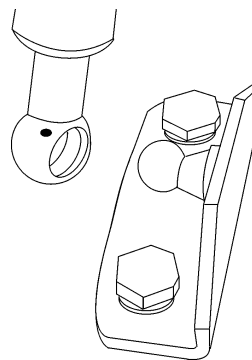

Figure 4-4.
6. Remove the door stop from the balls on each mounting bracket, top and bottom (Figure 4-4).